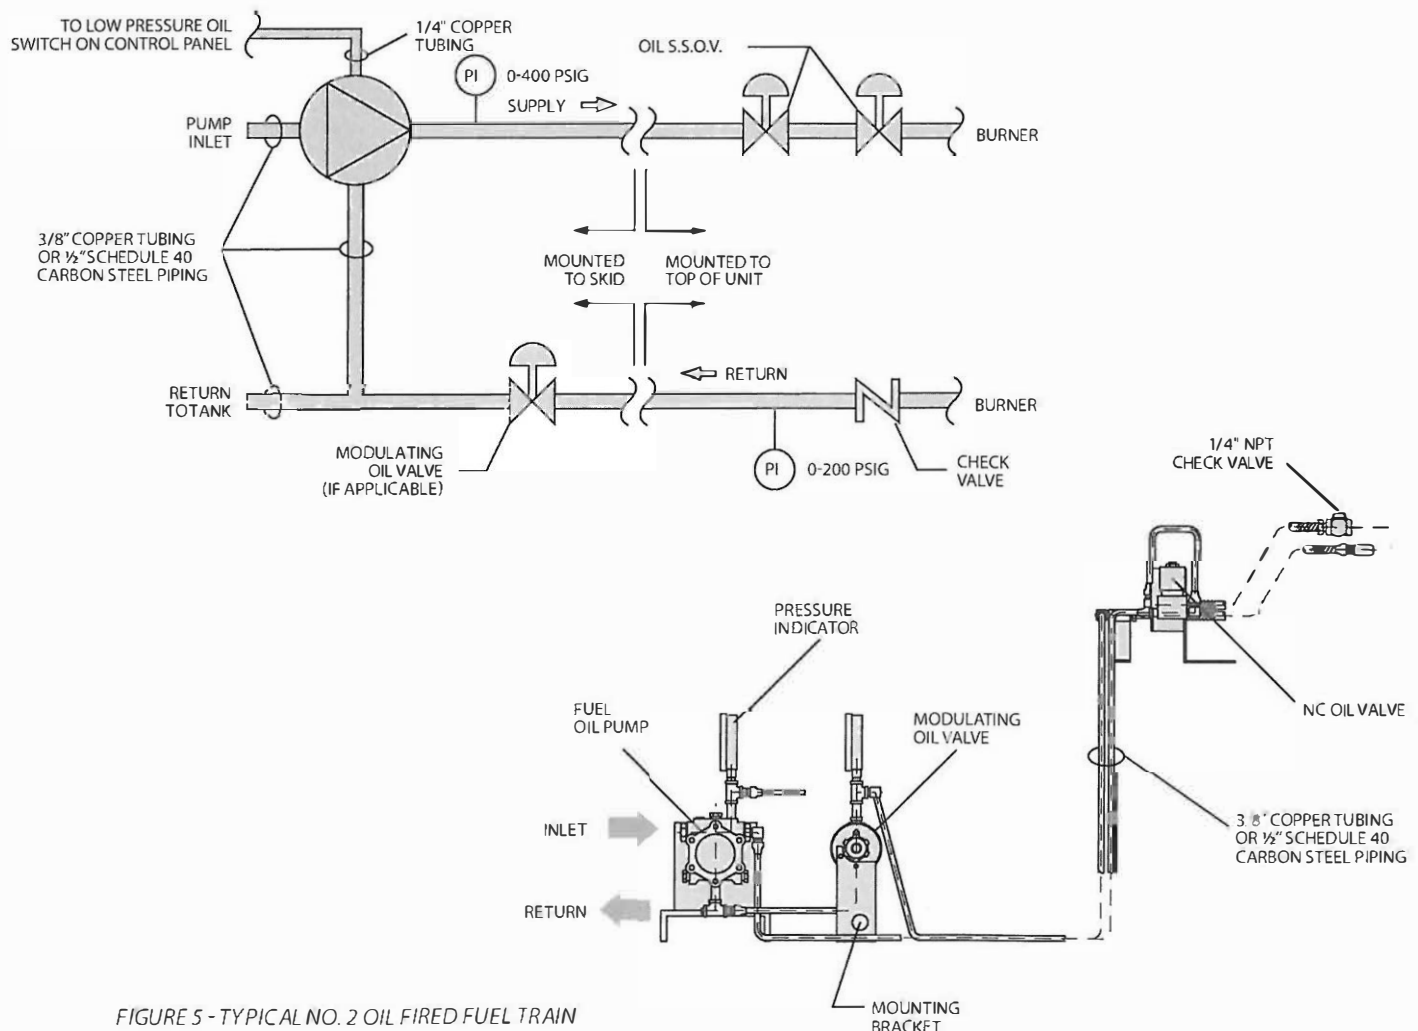

FIGURE 5 - TYPICAL NO. 2 OIL FIRED FUEL TRAIN
1. Fuel pipes must be of approved materials and of a diameter suitable for the quantity of oil being delivered to the burner and the static head available. See Figure 5.